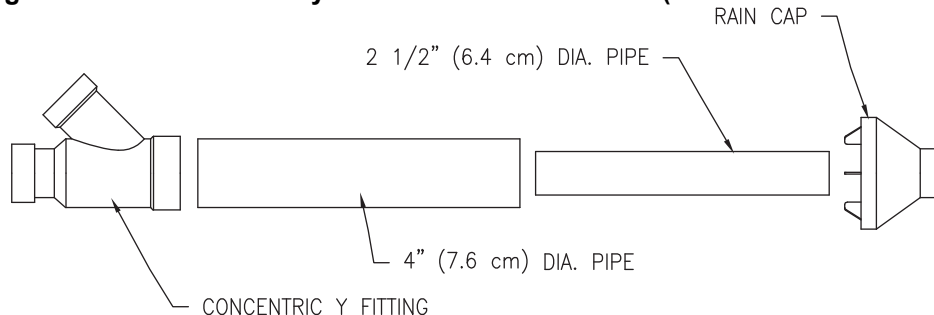
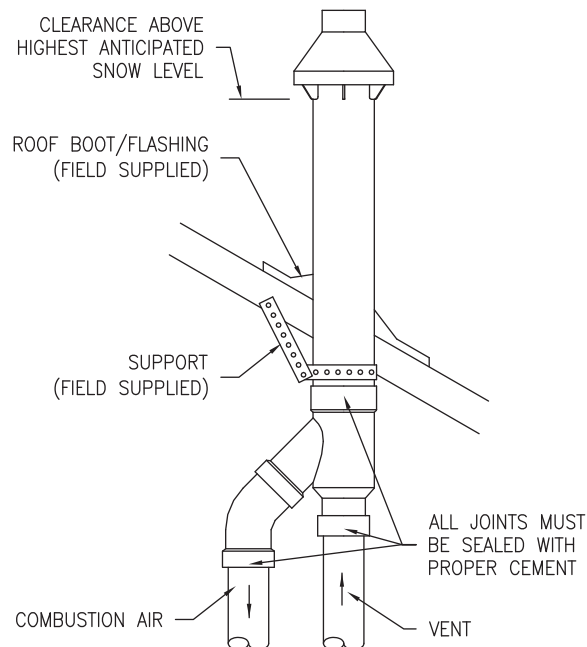

Figure 20. Concentric Vent Kit Part Identification.
Figure 22. Concentric Vent Roof Top Attachment.
- a. Cement concentric Y fitting to larger diameter pipe. (See Figure 20).
6. Secure assembly to roof structure as shown in Figure 22 using field-supplied metal strapping or equivalent support material.
Ensure termination height is above the roof surface or anticipated snow level. See Figure 22.
8. Cement heater combustion-air and vent pipes to concentric y fitting assembly (Figure 20). See Figure 22 for proper pipe attachment.
- a. Cement Y concentric fitting to larger diameter kit pipe. (See Figure 20).